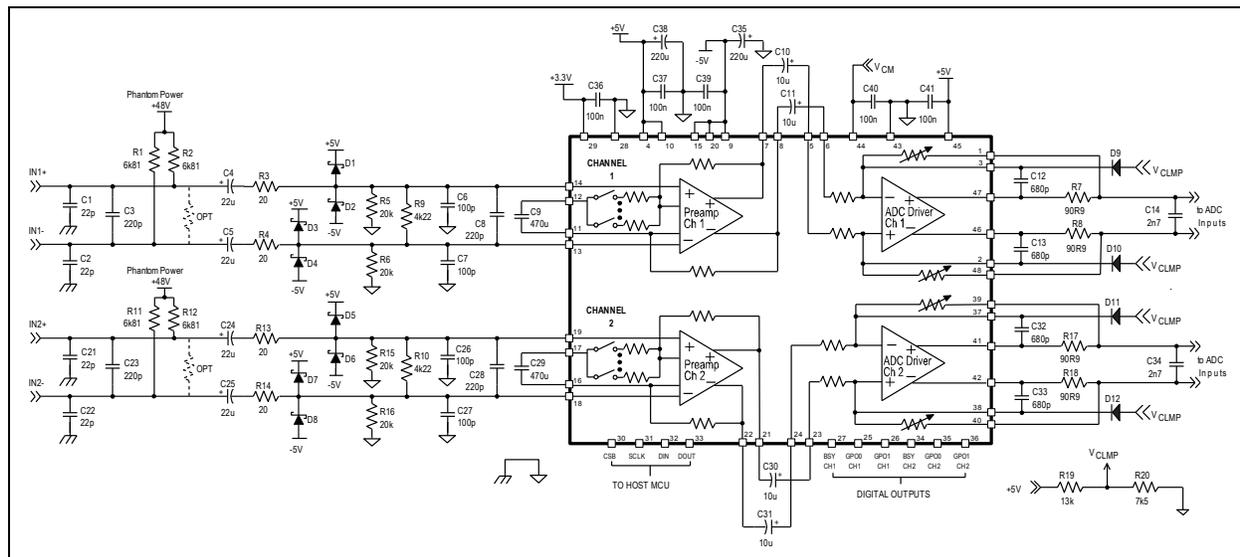

Figure 17. A typical bipolar-supply THAT 626x application circuit. See also Figure 18 for an alternative ADC anti-aliasing filter configuration.
Figure 17 is a typical 626x application circuit utilizing bipolar power supply rails. In this section, we discuss channel 1 in detail. However, all of the comments apply to the analogous components in channel 2.
The coupling capacitor (C9 in Figure 17, or CG in Figure 12) limits DC gain in the preamplifier to unity, regardless of the differential audio gain setting. The on-chip gain-setting R_G resistors in series with these capacitors vary with gain, which causes the cutoff frequency of the resulting high-pass filter also to vary with gain. This filter reaches its highest frequency at the minimum R_G (the highest gain), which is about 45 Ω (see Table 2). Hence, the highest cut-off frequency, with the 470 μF value shown in Figure 17 is ~ 7.5 Hz. Larger values will scale this frequency down proportionately. Since these capacitors, which are often physically large and stick up from the PCB, are effectively in series with the preamplifiers' inputs, they can serve as antennae to collect interfering signals. Take care to minimize possible sources of interference nearby that may be picked up by these large coupling capacitors.
The 626x ADC driver inputs (pins DI+_{CHx} and DI-_{CHx}) are capable of accommodating the full differential and common-mode signal range at the pre-amp outputs. However, the ADC driver’s fully-differential opamp inputs (brought out on pins CFB+_{CHx} and CFB-_{CHx}) have a common-mode input range of 1V to +5V. If this common-mode range is exceeded in the negative direction, the opamp’s inputs and outputs can get stuck close to ground. Diodes D9 and D10 in Figure 17 clamp the minimum voltage at the ADC driver opamp’s inputs to one diode drop below the voltage V_{CLMP} . For V_{CLMP} nominally +1.8V, the diodes ensure that the opamp’s inputs do not go below 1V above ground. This ensures that the ADC driver will accept the full 3.8V_p common-mode signal swing that can be present at the preamp outputs.
+5V) and ground. In Figure 17, this divider is made up of 13 k Ω and 7.5 k Ω resistors R19 and R20.
Phantom power is required for many condenser microphones. It is connected to the preamp inputs through resistors, R1 and R2, per +48V phantom power standards. THAT recommends the protection circuits as shown in Figure 17 when phantom power is included. R3 and R4 are to limit the current that flows through the preamp inputs during phantom power faults that can occur if one or both of the inputs are shorted to ground while phantom power is on. We recommend that R3 and R4 should be at least 20 Ω to limit destructive currents to under ~ 2.5 A. (Higher values provide more protection by further limiting current flow, but their additional source impedance adds noise.) The protection resistors used should be able to handle the short-term inrush current; many small surface-mount types cannot. With the values shown for C4 and C5, we recommend at least ¼ W resistors.
Figure 17) when C4 and C5 are as shown at 22 μF . The large 220 μF capacitor absorbs the charge dumped by C4 and/or C5, and keeps the -5 V rail from being pulled excessively negative, which could damage the 626x. If larger values are employed for C4 and C5, then C35 and C38 should be increased proportionately.
The most common anti-aliasing filter configuration for driving audio ADCs is shown in Figure 17. Capacitors C12 ~ C14, resistors R7 and R8, and the internal feedback resistors of the ADC driver form a second-order lowpass filter. Since R7 and R8 are inside the amplifier's feedback loop, the closed-loop output impedance remains quite low inside the audio band, but they still serve to isolate the ADC driver's output from the high-frequency charging currents for the typical ADC's switched-capacitor inputs. C14 should be placed physically close to the ADC input pins.
As noted above, in the 6261, the ADC driver's internal feedback resistors vary, which will have a small effect on the overall filter response. The frequency response for the -8 dB case is -3 dB at 560 kHz and -48 dB at 6.144 MHz. The response of the -5 dB case is -3 dB at 419 kHz and -51 dB at 6.144 MHz. As with the filter shown in Figure 17, for
As shown in Figure 17, THAT recommends a 100nF capacitor to ground on all the supply rails plus the VCM reference (pin 44) for high frequency noise filtering. For best effectiveness, place each 100nF capacitor close to its associated pin in the PCB layout. For rails with multiple pins, e.g., V_{A-} and V_{A+} , only a single 100nF capacitor is needed per supply; connect the capacitors near pins 9 and 10.
- Delete clamp diodes D9 and D10 and the V_{CLMP} voltage divider R19 and R20 (from Figure 17) as these are not required for unipolar operation.
Further, the DC level of the preamplifier output is one V_{BE} below +5V Filt (thus about +4.3 V), while the ADC driver input's DC level is at V_{CM} (nominally +3.1 V). Hence, the ac-coupling capacitors between the preamp and ADC driver stages (C10 and C11) are reversed in polarity from those in Figure 17. We recommend these capacitors be rated at least 3.3 V.
Because the ADC driver V_{cm} voltage is set to +3.1V for unipolar applications, the full common-mode swing output swing from the preamp cannot force the ADC driver opamp inputs below the minimum allowable level. Hence, diodes D9 and D10 (and the associated voltage divider) as in Figure 17 are not needed when the 626x is powered by unipolar supplies.
| 04 | 3032 | 06/01/18 | Corrections to application circuits, Figures 17, 18 and 20 | 14,16,18 |